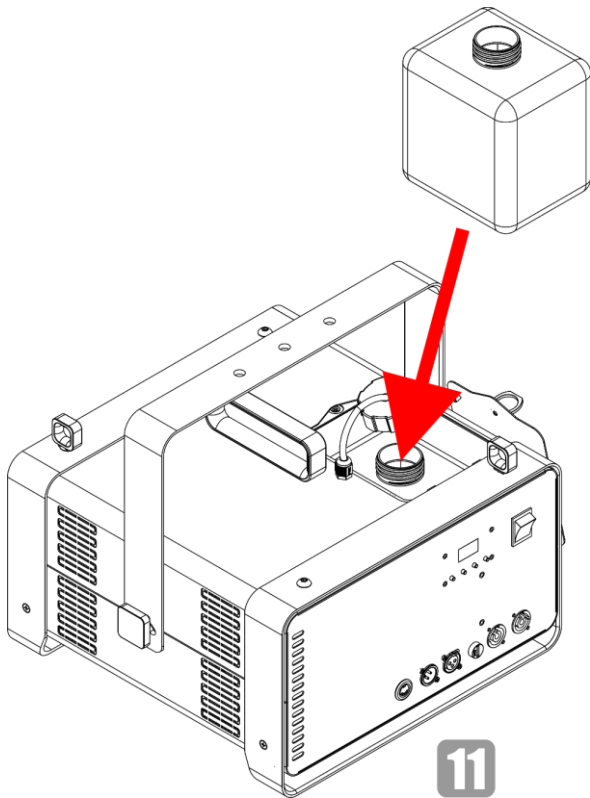

Fig. 29
- 11) Put the fluid tank back in the device, as shown in Fig. 29.